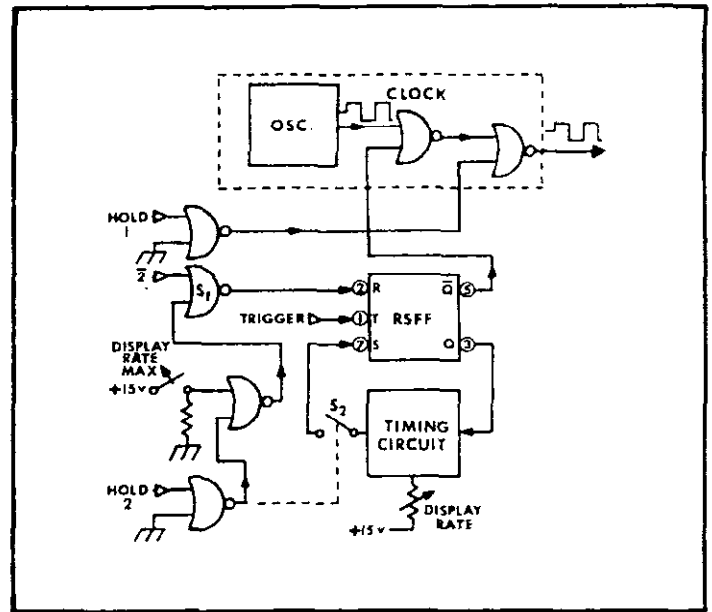

FIGURE 11. Delay Hold Circuit
**e. Delay Hold.** The Delay Hold circuit controls the DISPLAY RATE function and external Hold and Trigger commands as shown in Figure 11. It determines the length of time between A/D conversions when the front panel DISPLAY RATE Control is set to any position other than MAX. The clock is stopped at the beginning of the ZERO (2) period for a time determined by the rotation of the DISPLAY RATE Control. It ensures that when the Hold 2 is grounded the conversion in process will be completed and new data will be stored in the output storage register. Then the clock will be inhibited at the beginning of the ZERO period (2). The instrument will remain in this condition indefinitely until Hold 2 is released or until Trigger is shorted to ground. After conversion, the instrument will again be inhibited at the beginning of the period (2). If both Switches S1 and S2 are closed, the conversion cycle works in the following manner. After the previous conversion has been completed, the leading edge of the program command (2) resets the flip-flop. In this new condition Q is high and, therefore, the clock gives no output. At that time, the unijunction timer begins its cycle and, after the appropriate time, produces a pulse that sets the flip-flop. This changes Q to a low state and a new conversion cycle begins. After the reading has been completed, the (2) command again resets the flip-flop and the timer again issues a new pulse to set the flip-flop.